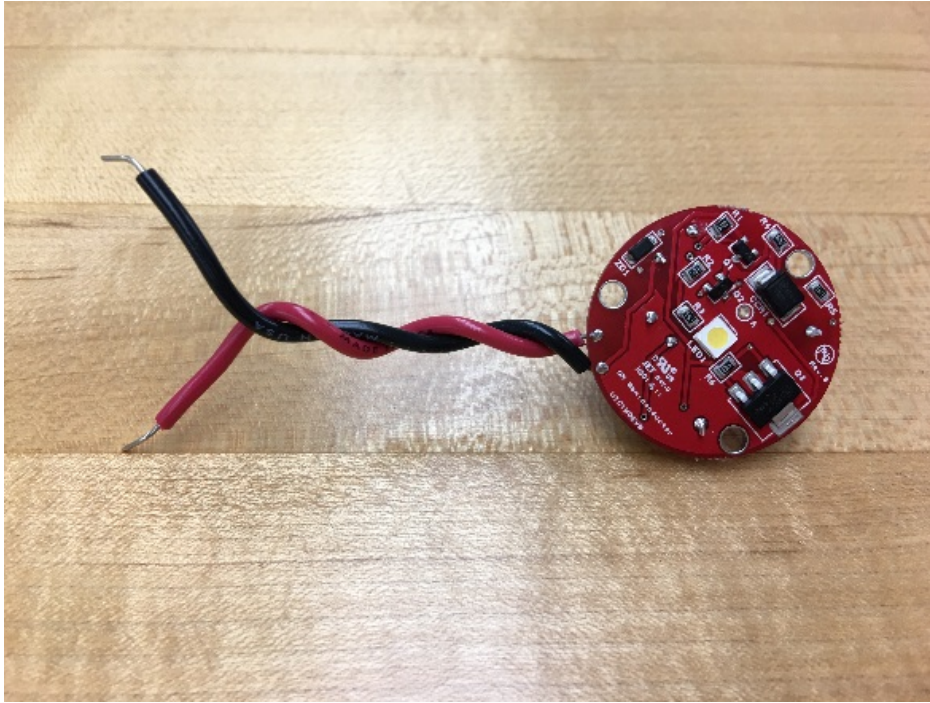

Figure 1: Test Setup
2. Connect the red and black wires as shown in Figure 1 to your AC source.